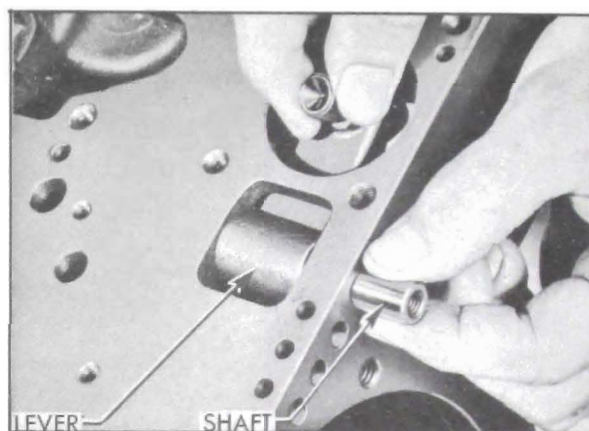

Figure 5-92—Installing Low Band Operating Lever and Shaft
1. Install the low band operating lever and shaft. Strut shoulder of lever must be toward inside of case and tapped end of shaft must be outward. See figure 5-92.